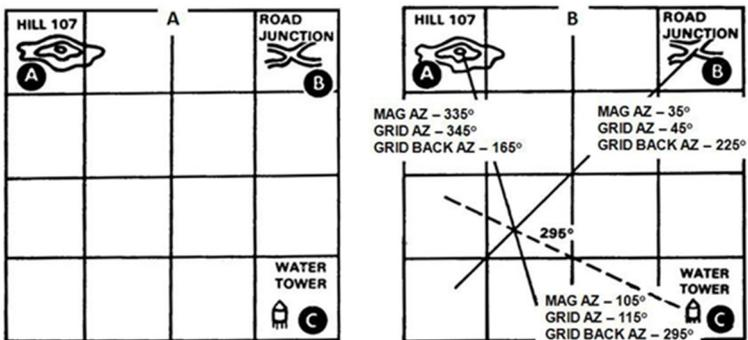

Figure 071-COM-1015-1. Resection using the map and compass method.
1. Identify your location on a map by resection using the map and compass method (Figure 071-COM-1015-1).